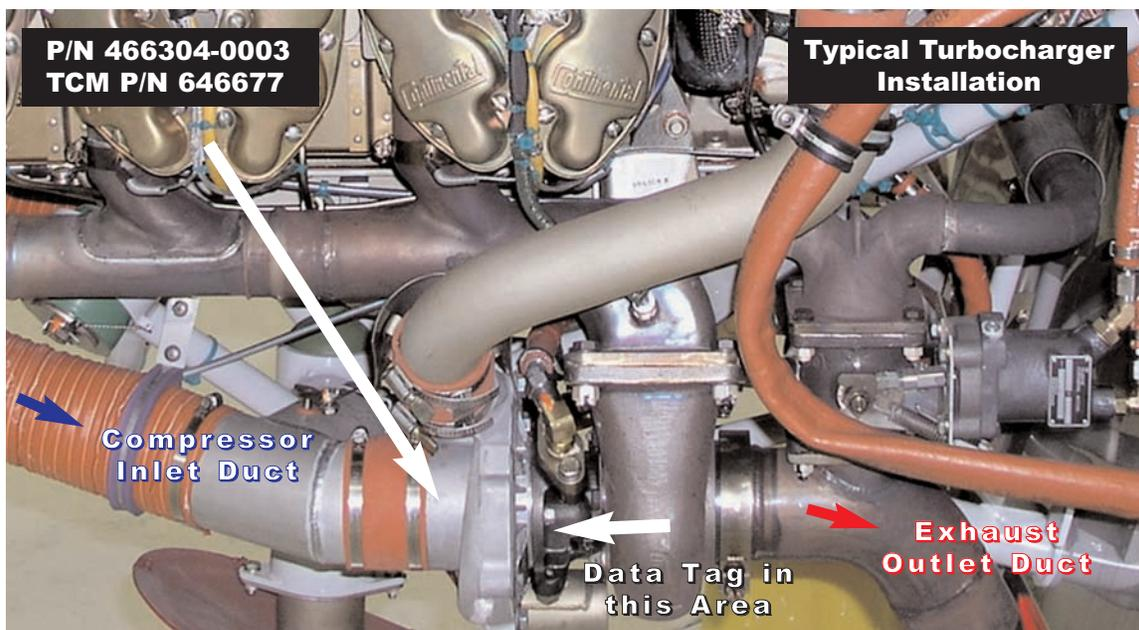

Figure 1 - Turbocharger Installation
2. Remove the compressor inlet ducts to expose the compressor wheels. Refer to Figure 1.
1. The affected turbocharger P/N 466304-0003 (TCM P/N 646677) must be removed and replaced per the table shown on page 1. Each aircraft has two turbochargers. Check the data tag on each to identify whether the serial number of the turbocharger is one that is affected. When identification is made, remove the turbocharger from the aircraft. Removal must be in accordance with the aircraft and/or engine manufacturers maintenance manuals or service instructions. Contact the aircraft manufacturer to determine the disposition of the suspect turbocharger and information regarding the return of the turbocharger(s). All warranty applications must be made through the aircraft manufacturer. *Refer to Fig 1 as required.*